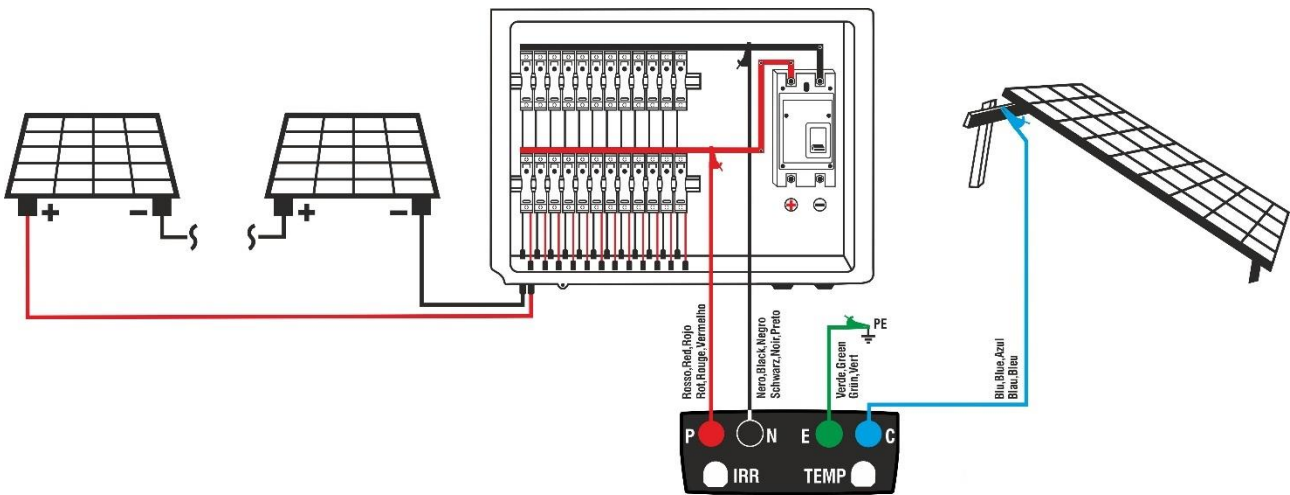

Fig. 16: Connection for IVCK tests with Start&Save function
7. Connect the instrument as shown in Fig. 16. In particular, connect the negative pole of the bar to the **N** input via a fixed connection with a crocodile terminal, the positive pole of the bar to the **P** input via a fixed connection with a crocodile terminal, the main earth node of the system (for MΩ and RPE tests) to the **E** input and, if necessary, the **C** input to the metal masses (for RPE tests).